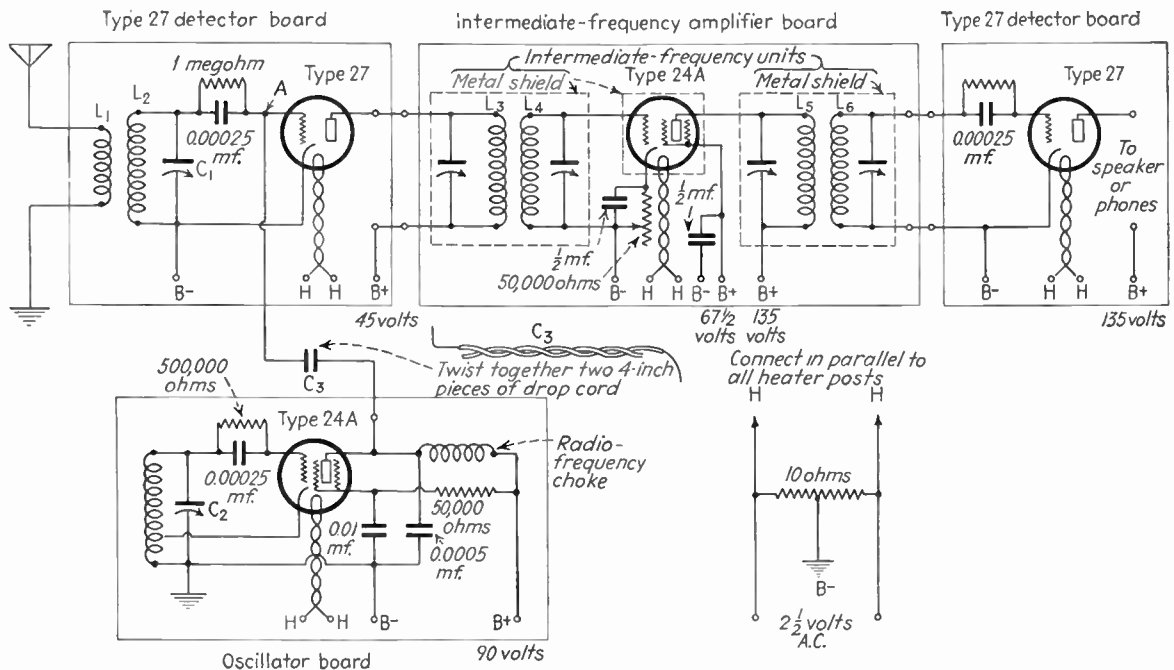
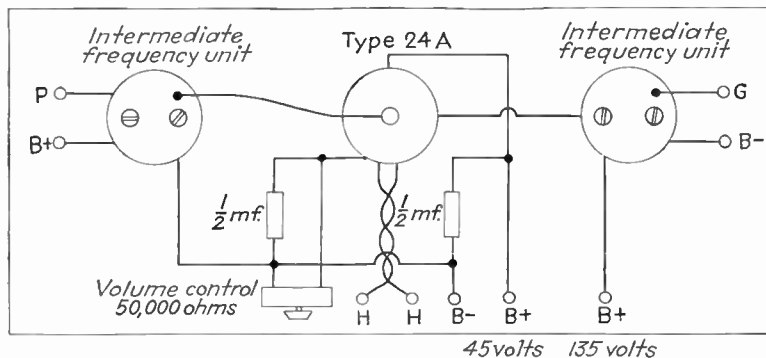
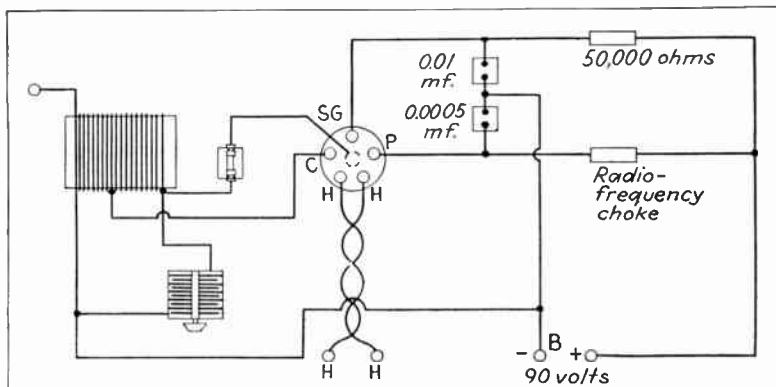

FIG. 241. Superheterodyne circuit.
FIG. 242. Intermediate-frequency amplifier unit.
FIG. 243. Oscillator unit.
It will be necessary to build only two boards for this set, the intermediate-frequency amplifier unit and a second unit for the oscillator. See Fig. 241 for the circuits.
Connect the wire shown in the circuit diagram (Fig. 241) that runs from the plate of the oscillator tube to a point
Position of the Parts. Mount each new unit of the superheterodyne on a small board. Place the parts as shown in Fig. 242 and Fig. 243. Since the intermediate-frequency transformers are well shielded, it is unnecessary to use any special wiring arrangement on this board. Ground the shields.
Place the 23-plate variable tuning condenser at the front of the oscillator board in a convenient position for tuning (see Fig. 243). Place the oscillator coil a distance equal to its diameter from the condenser or the tube. Place the gain-control resistor near the front of the board for ease in tuning.
Step 3. Correct the tuning condenser setting for the best signal strength. After you have tuned in the desired station, set the volume control R_1 on the intermediate-frequency board (see Fig. 241 and Fig. 242). No other tuning adjustments are made in this receiver. The intermediate-frequency adjustments remain fixed when once adjusted.